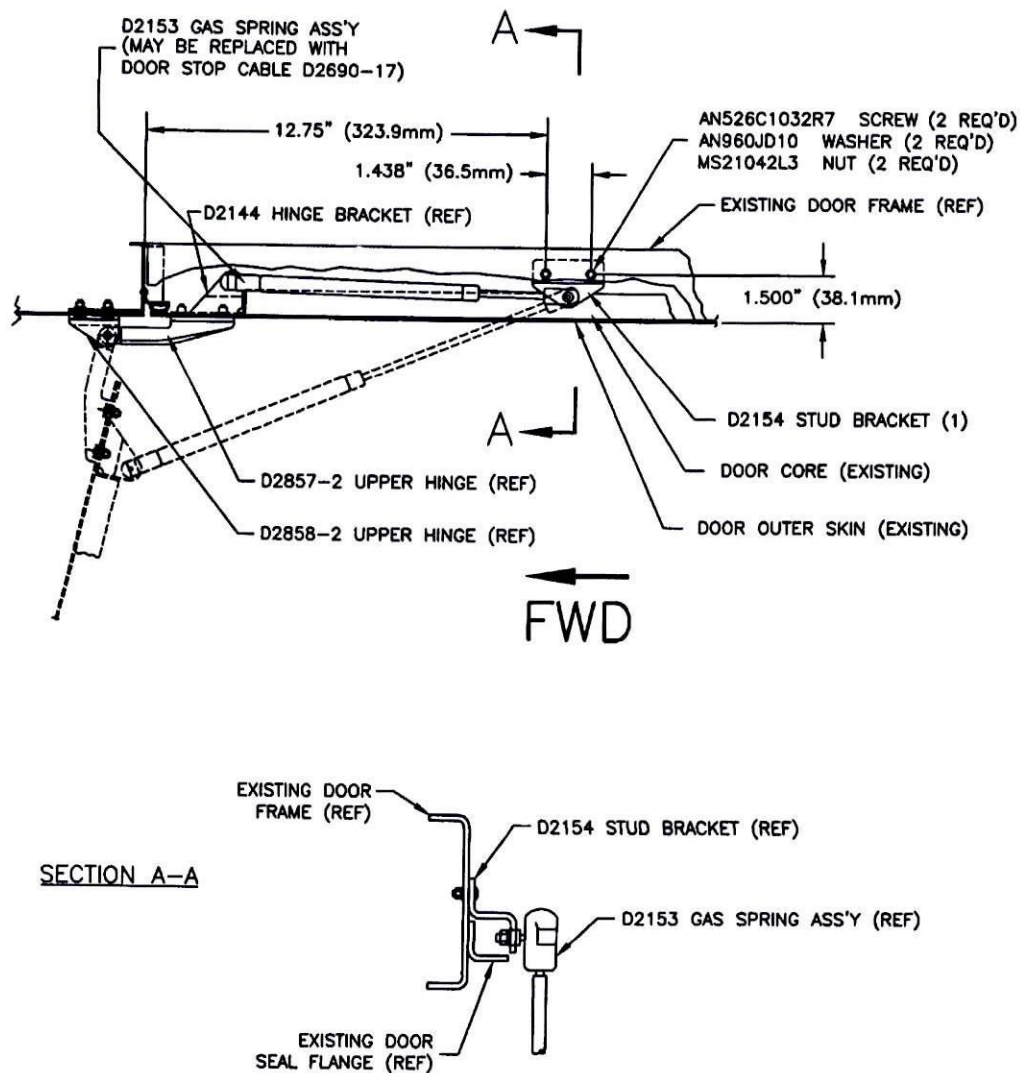

Figure 5: Gas Spring Installation
11. Install gas spring assembly per Figure 5.